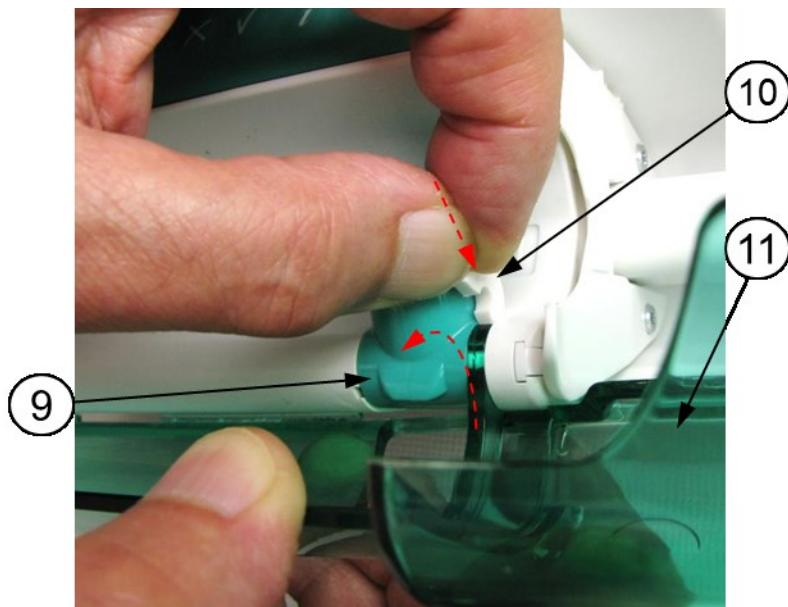

Fig. 85 PCA cover removal/installation
9. Next to the **Syringe clamp** (9), hold the **TA-52 Technological distance for PCA cover** assembly (10) as indicated on the **Fig. 85**.
10. Pull towards himself/herself and disassemble the **PCA cover** (11), putting the **TA-52 Technological distance for PCA cover assembly** (10) in the free space as indicated on the **Fig. 85**.
1. Replace the **TA-52 technological distance for PCA cover assembly** (10) by the **PCA cover** (11) by making the movement opposite to the direction indicated by red arrows in **Fig. 85**.